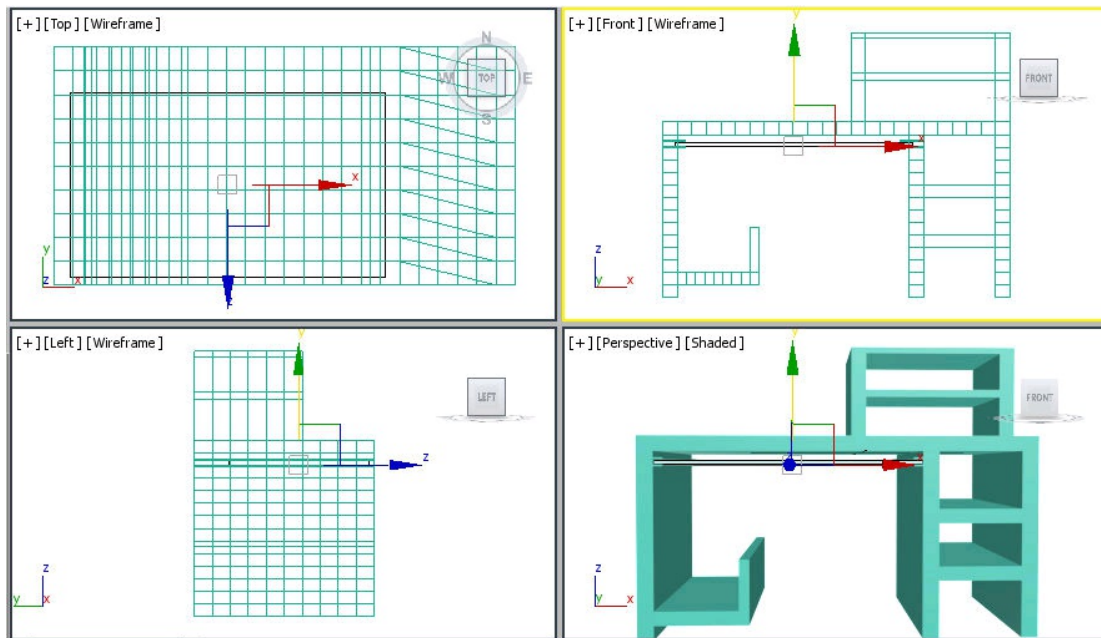

Figure 9-90 The *Keyboard support* geometry aligned in the viewports
10. Modify the name of the box as *Keyboard support*. Next, align it in the viewports, as shown in Figure 9-90.